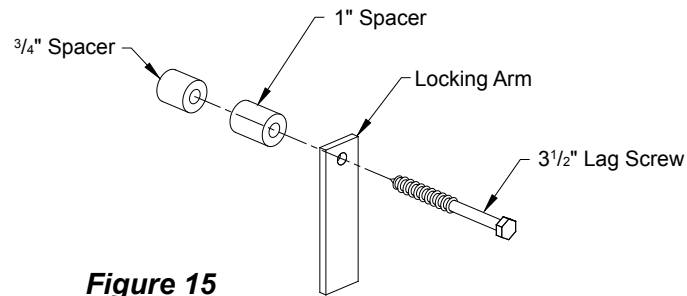

Figure 15
- 1) Install optional latch kit as necessary. Locking arms should be positioned close to lift brackets. **See Figure 15.**